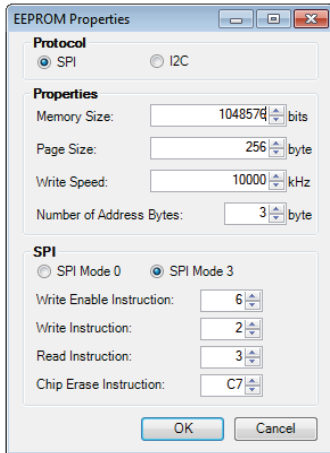

Figure 71. EEPROM Properties Window and Required Settings
- An **EEPROM Properties** dialog box appears. Enter the appropriate values into the text fields as shown in Figure 71, then click **OK**.